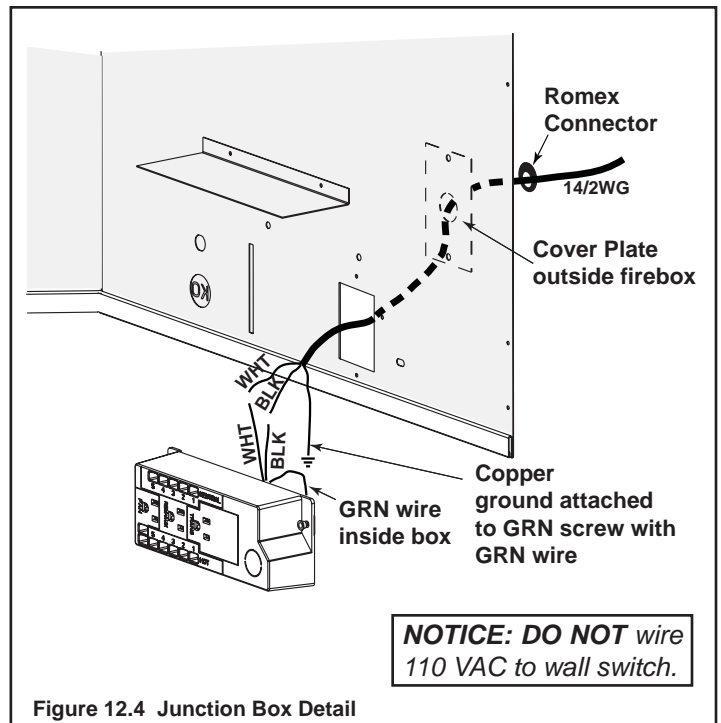

Figure 12.4 Junction Box Detail
- A 110 VAC junction box MUST be installed for use with a fan or remote control. See Figure 12.4 for junction box wiring. Keep wire lengths short as possible.
- Remove the screw attaching the junction box/receptacle to the outer shell, rotate the junction box inward to disengage it from the outer shell (see Figure 12.4).
- Pull the electrical wires from outside the appliance through the opening into the valve compartment and secure wires with a Romex connector. See Figure 12.4.